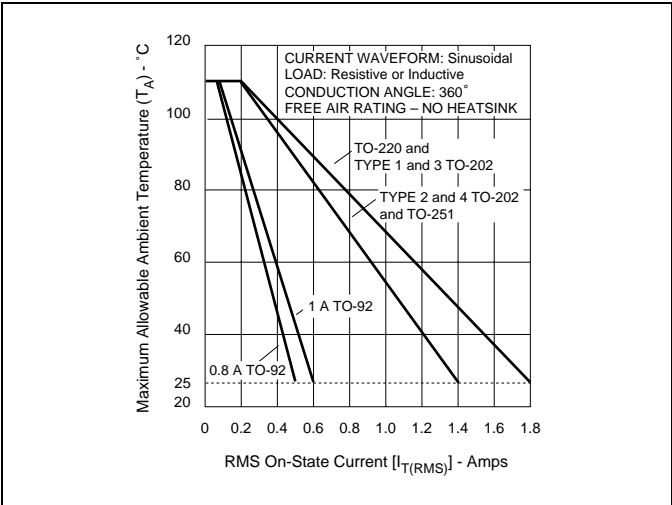
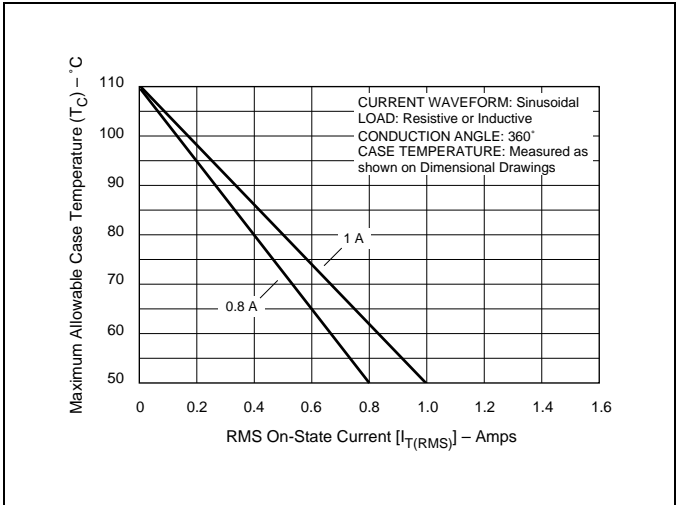
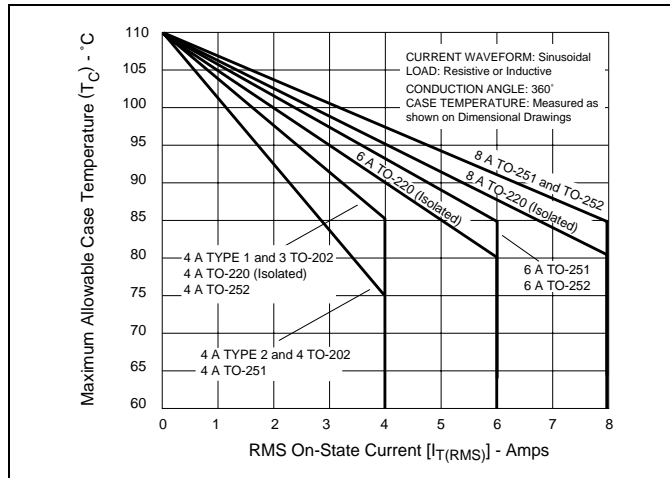

Figure E1.1 Maximum Allowable Ambient Temperature versus On-state Current
Figure E1.2 Maximum Allowable Case Temperature versus On-state Current (0.8 A and 1 A)
Figure E1.3 Maximum Allowable Case Temperature versus On-state Current (4 A, 6 A, and 8 A)
- (10) See Figure E1.2 and Figure E1.3 for maximum allowable case temperature at maximum rated current.
- (11) See Figure E1.1, Figure E1.2, and Figure E1.3 for  $T_A$  or  $T_C$  versus  $I_{T(RMS)}$ .
- (12) See package outlines for lead form configurations. When ordering special lead forming, add type number as suffix to part number.
- (13) Pulse width  $\leq 10 \mu\text{s}$
- (14)  $T_C$  or  $T_L = T_J$  for test conditions in off state
- (15) Minimum non-trigger  $V_{GT}$  at  $110^\circ\text{C}$  is 0.2 V.